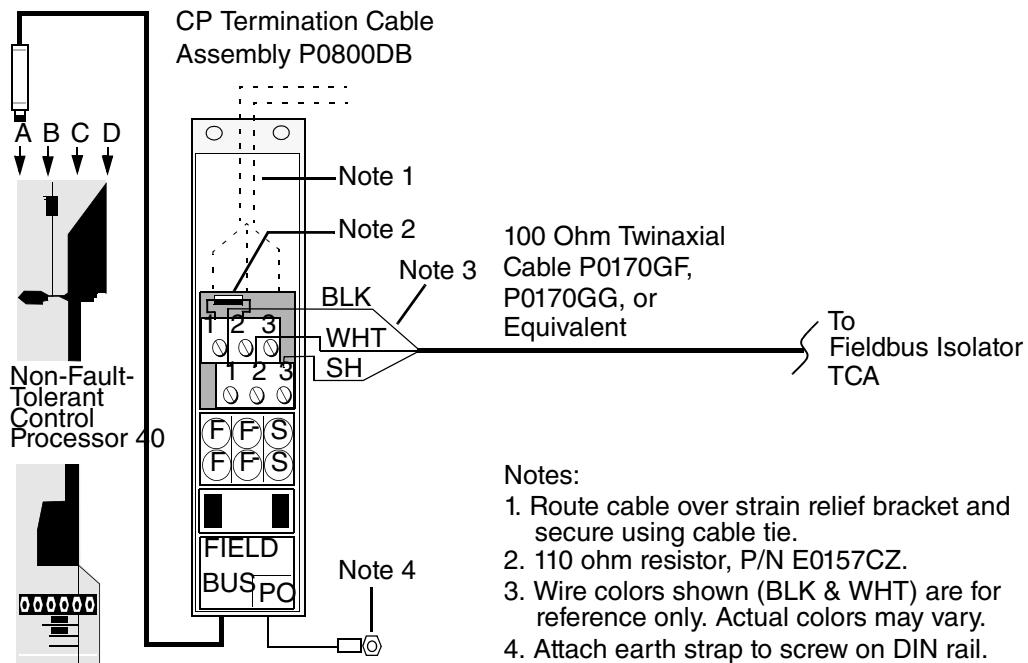
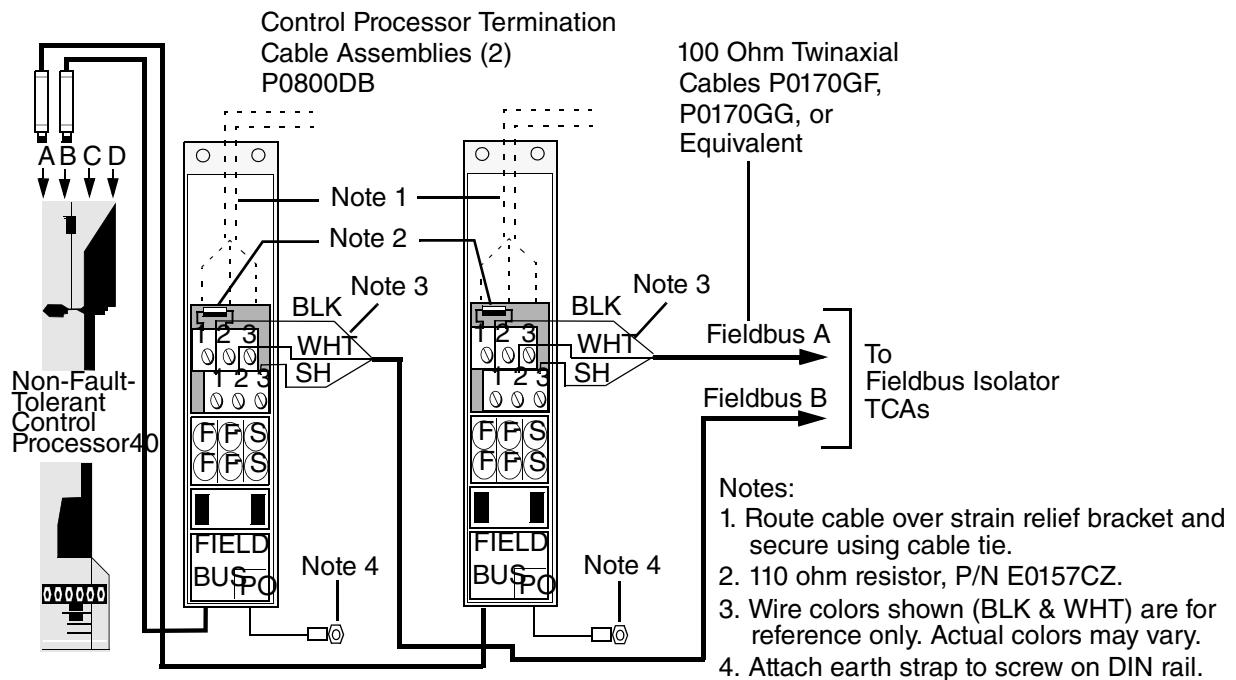
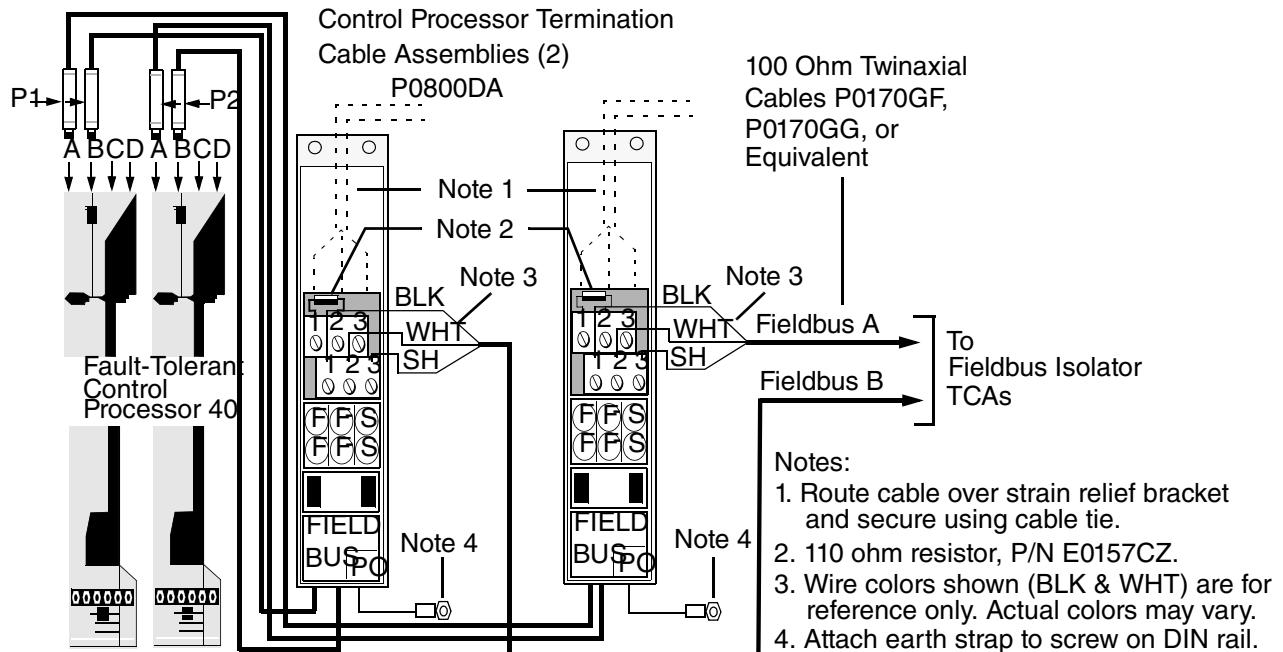

Figure 2-18. Non-Fault-Tolerant CP40 and Non-Redundant Fieldbus, Cable Connections
Figure 2-19. Non-Fault-Tolerant CP40 and Redundant Fieldbus, Cable Connections
Figure 2-20. Fault-Tolerant CP40 and Redundant Fieldbus, Cable Connections
- ◆ Non-fault-tolerant CP40 and non-redundant Fieldbus (Figure 2-18)
- ◆ Non-fault-tolerant CP40 and redundant Fieldbus (Figure 2-19)
- ◆ Fault-tolerant CP40 and redundant Fieldbus (Figure 2-20).
To make the Fieldbus cable connections at the I/A Series CP40, refer to Figure 2-18, Figure 2-19, or Figure 2-20, as appropriate for your configuration, and proceed as follows:
2. Connect the TCA cable(s) to the CP(s) as shown in Figure 2-18, Figure 2-19, or Figure 2-20.
3. Connect the Fieldbus cable(s) to the TCA(s) as shown in Figure 2-18, Figure 2-19, or Figure 2-20.
4. If it is not already in place, add the termination resistor (supplied with each TCA) as shown in Figure 2-18, Figure 2-19, or Figure 2-20.